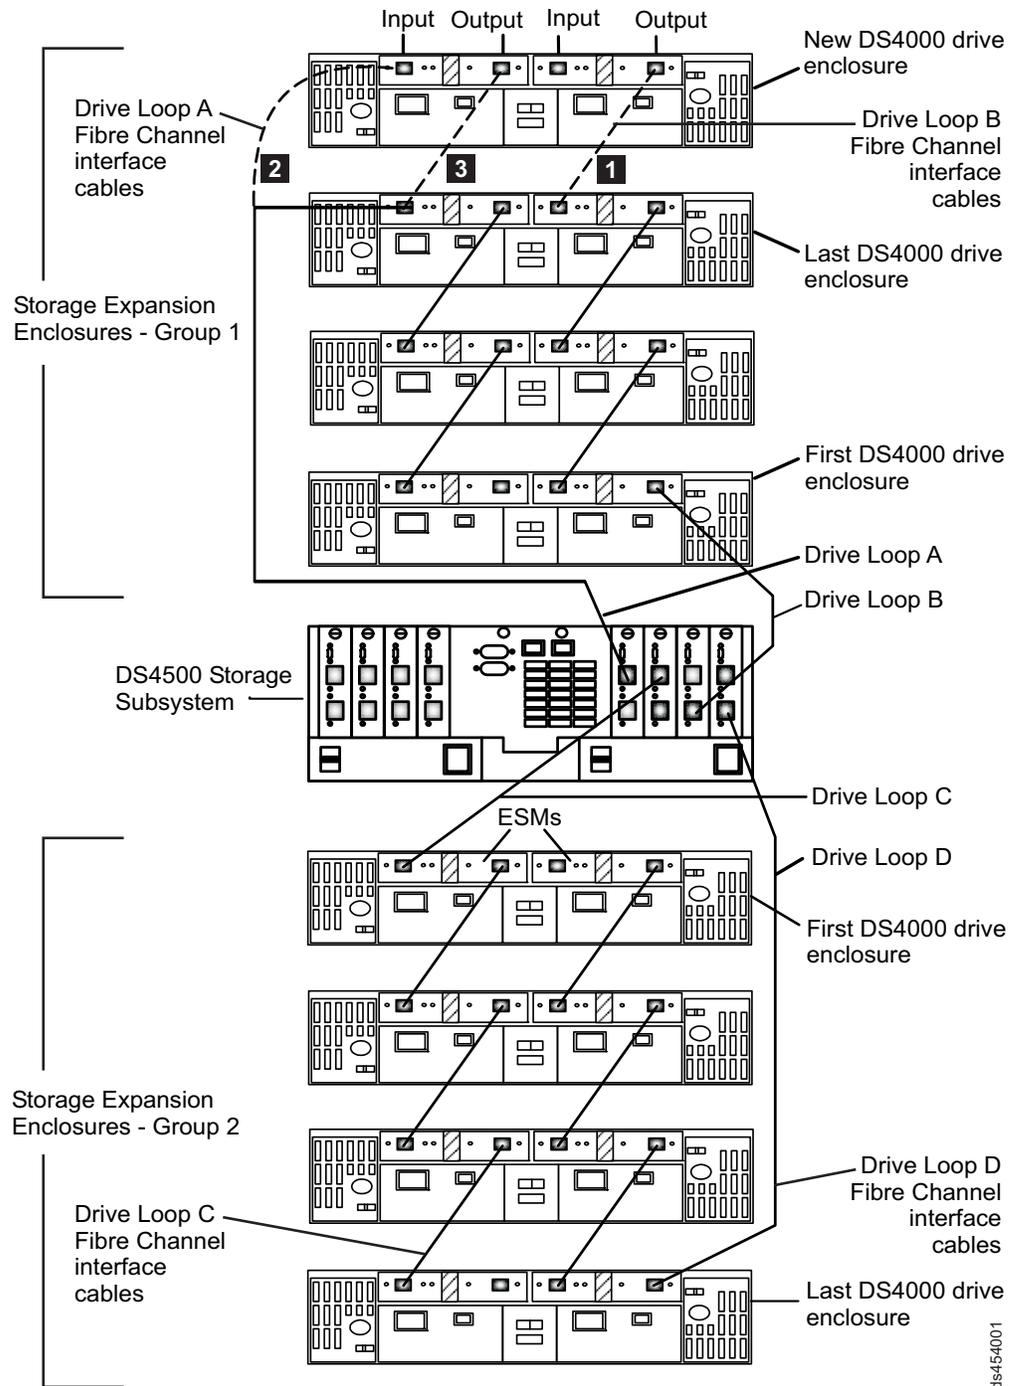

Figure 42. Cabling the EXP100 to two redundant loops
| Figure 42 on page 67 shows an example of a DS4500 configured with four drive
The numbers corresponding to the dashed lines in Figure 42 show how to add a new EXP100 to an existing DS4500 configuration with EXP100s attached, as described in the following steps.
To add the new EXP100 shown in Figure 42, perform the following steps:
2. Make the Fibre Channel connection marked ( **1** ) in Figure 42 (drive loop B).
4. Make the Fibre Channel connection marked ( **2** ) in Figure 42 on page 67.
5. Make the Fibre Channel connection marked ( **3** ) in Figure 42 on page 67 (drive loop A).